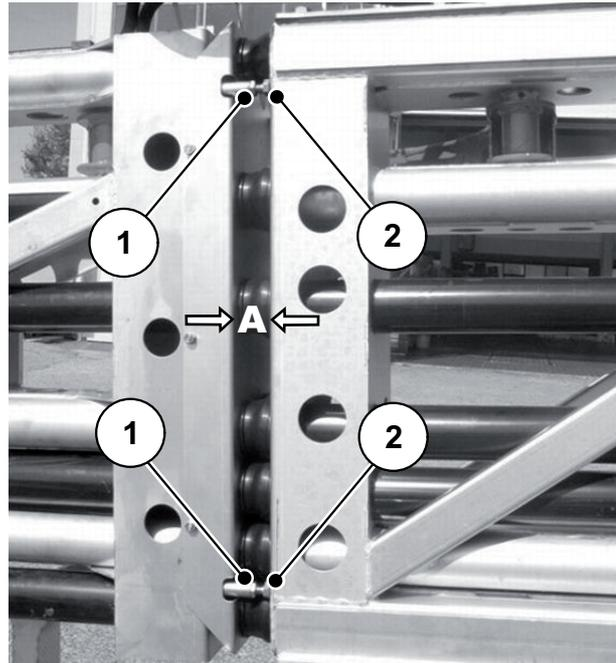

Figure 10.3: Adjust the extended boom segments vertically
- The distance dimension A (see figure 10.3: Position A) is approx. **47 mm**.